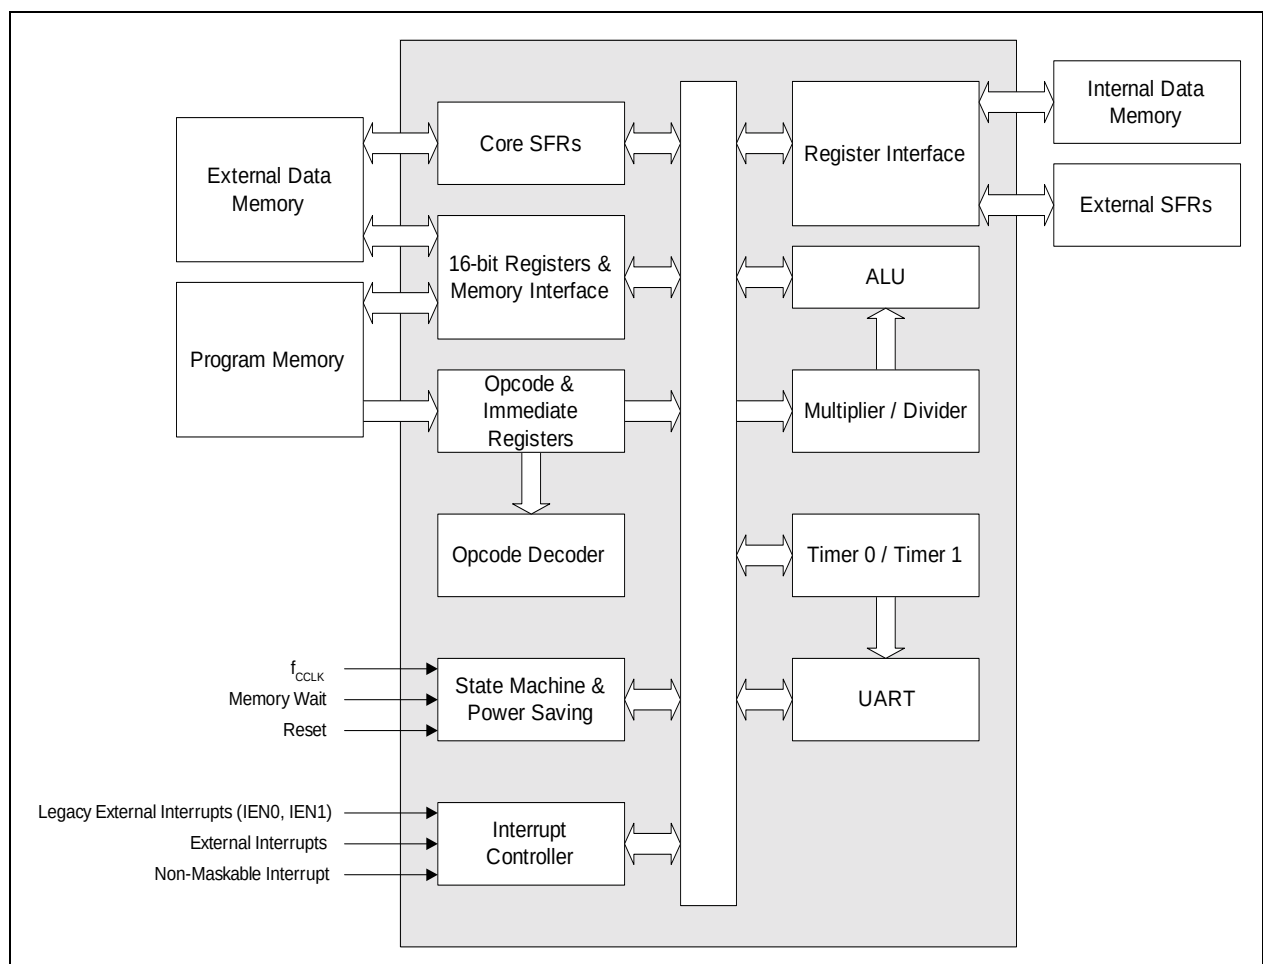

**Figure 5 CPU Block Diagram**
**Figure 5** shows the CPU functional blocks.